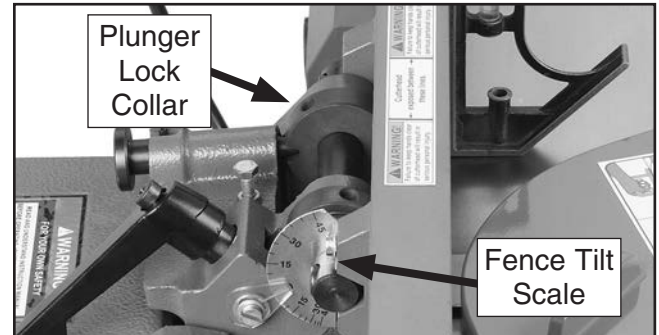

Figure 65. Adjusting fence to 90°.
2. Loosen set screw in plunger lock collar shown in **Figure 65**, and loosen fence tilt lock.
3. Using a 90° square, adjust fence to 90° position, as shown in **Figure 65**, then tighten set screw in plunger lock collar.